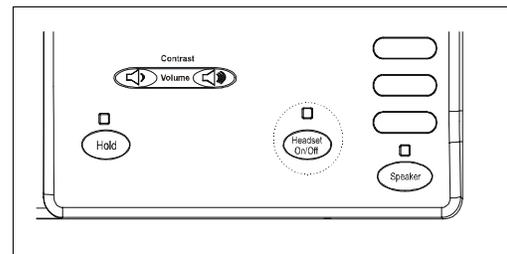

Figure 2
2. Next, press the **speed dial location key** where the desired location will be. The display will read “Mxx NO CONTENT”. If the display shows a record, then there is a stored name and number in that location (figure 2).
- Press the “HEADSET ON/OFF” key to activate the headset. The LED above the key will illuminate to indicate that the headset is on (figure 2).